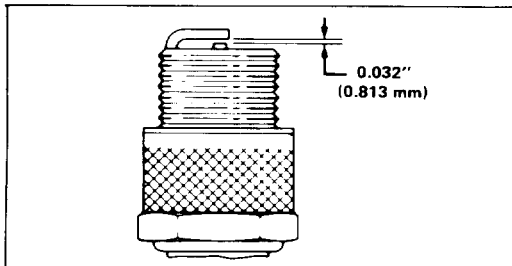

Figure 17
**3. INSTALL SPARK PLUG** — Set air gap (Fig. 17) between electrodes at .032" (.81 mm). Install plug and tighten to 15 ft-lb (20.4 N.m). If torque wrench is not used, tighten plug firmly. Push wire onto spark plug and reinstall control panel.